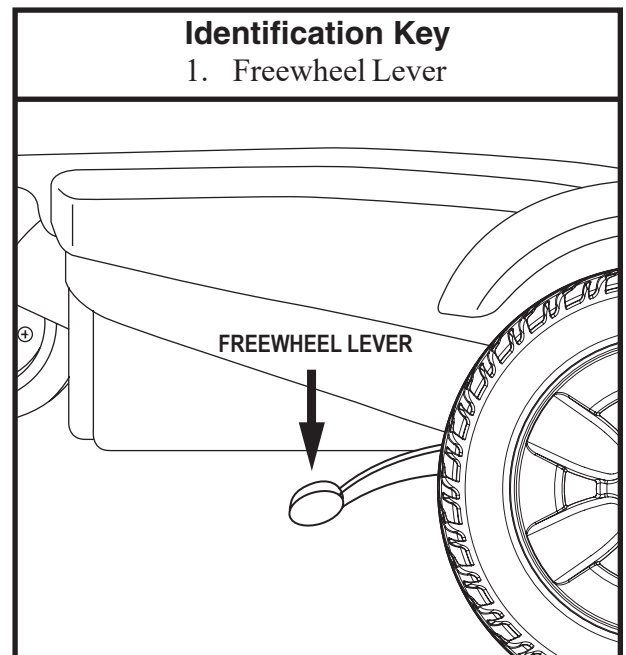

Figure 8. Freewheel Mode (Drive Disengaged)
3. Push both levers downward to disengage the drive motors (freewheel mode). See figure 8.